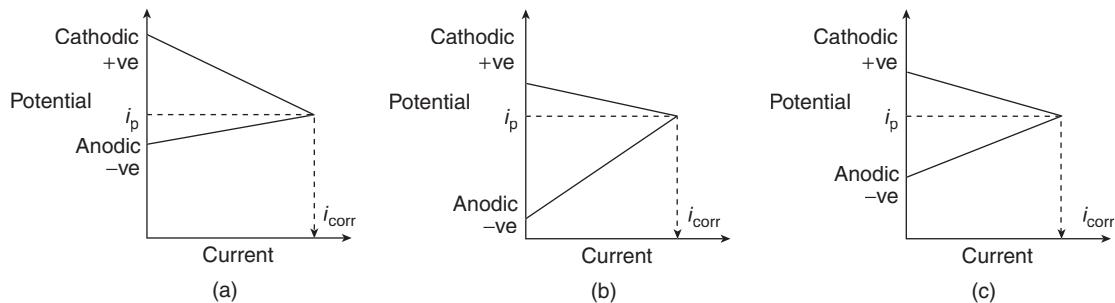

Figure 40 Polarization curves: (a) cathodic control, (b) anodic control and (c) mixed control.
- 4. Polarization of electrodes:** Polarization is defined as the departure of electrode potentials from their equilibrium values, that is, from the open-circuit potentials causing a decrease in the current density. Polarization at the electrodes is due to concentration changes in the electrode region. It causes the potential of the cathode to become more anodic and that of anode to become more cathodic. The anodic and cathodic reactions must go in-step with one another if corrosion is to be sustained. The overall rate of electrochemical corrosion may be principally governed either by the anodic or by cathodic reaction rate. For metals such as Fe and Zn in aqueous solution, the rate of the cathodic reaction is the rate-determining step and the reaction is said to be under cathodic control (cathode polarization) in which corrosion current is under cathodic control. If the anodic reaction is the rate determining step, then the rate of corrosion is controlled by anodic polarization. Figure 40 shows the polarization curves for corrosion processes proceeding by (a) cathodic control, (b) anodic control and (c) mixed control.